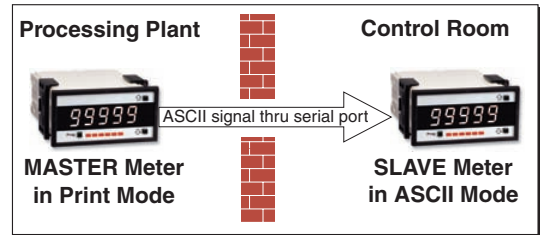

Figure 17 – Providing a Second Display
- Providing an accurate second display of the master meter's data at a remote location (see Figure 17).
Two Tiger meters can be connected through their serial ports. The data, converted to ASCII format, is transferred directly from the master (sending) meter to the slave (receiving) meter with no loss in accuracy. The master meter is configured in the Print Mode in Code 3 [XX3]. This means that instead of sending the data in ASCII format to a printer, it is sent to the slave meter. The slave meter is configured in the ASCII Mode in Code 3 [XX0]. This means that it can receive the ASCII formatted data sent from the master meter and translate this into an instruction to display the data (see Figure 17).